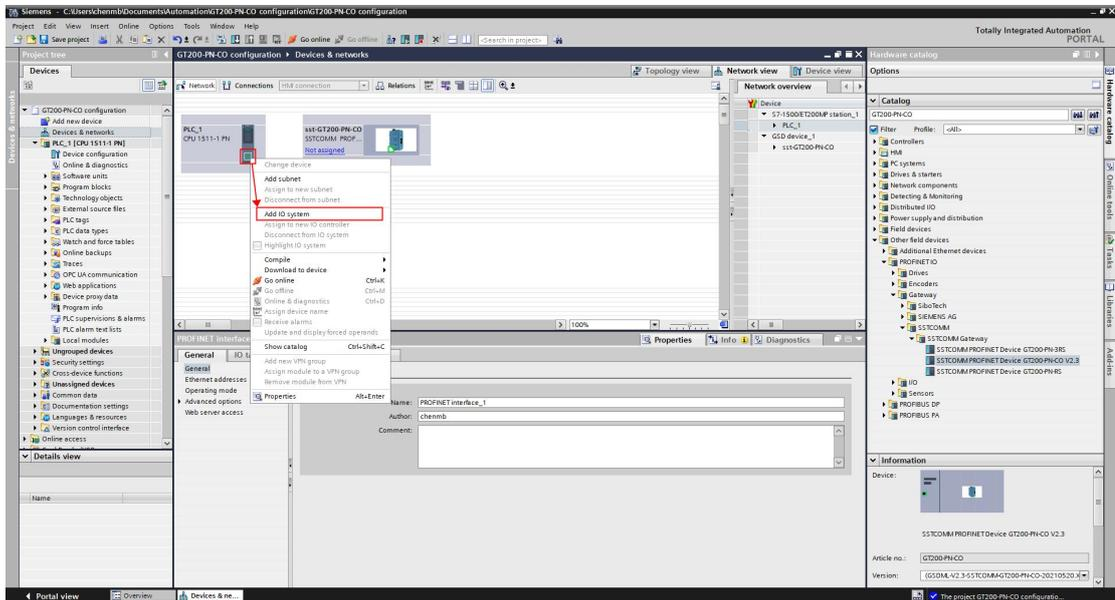

Figure 14: Add "I/O System"
3.6 Switch the interface to "Network View", right-click on the small green box of "PLC_1" and add "I/O System" as shown in Figure 14.